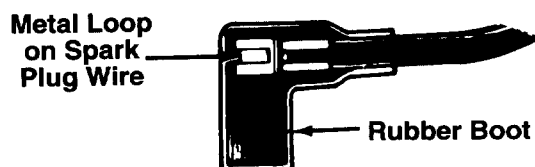

FIGURE 9.
3. Attach spark plug wire to spark plug. Make certain the metal loop on the end of the spark plug wire (inside the rubber boot) is fastened securely over the metal tip on the spark plug. See figure 9.